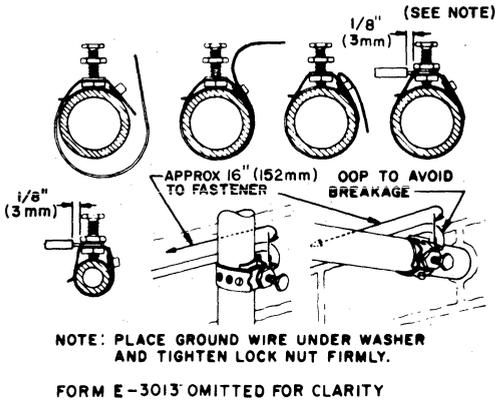

Fig. 59—Installing B Station Ground Clamp
- (1) Clean pipe thoroughly.
- (2) Back off locknut to head of set screw.
- (3) Back off set screw until it does not protrude through the soldered nut.
- (4) Place Form E-3013B on strap. Bend strap around pipe and place strap on the rivet using hole in strap that provides the least slack.
- (5) Bend strap sharply at next hole beyond rivet.
- (6) Tighten set screw. If the set screw is tightened excessively, the clamp will break or set screw will slip off center and copper pipe may be dented. When fastening clamp to copper pipe, avoid making a dent in the pipe that is more than barely perceptible.
- (7) Place ground wire under the washer and tighten locknut (Fig. 59).